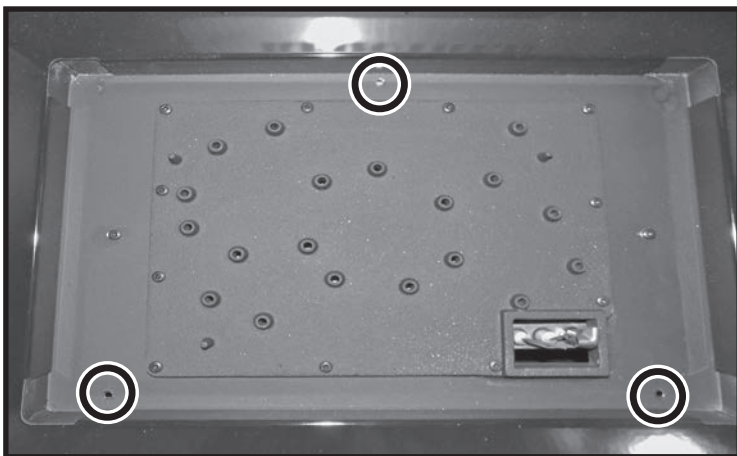

Figure 31: Removing front burner tray screws.
6. Remove the 2 front and 1 rear screws holding the burner tray in place (Figure 31).